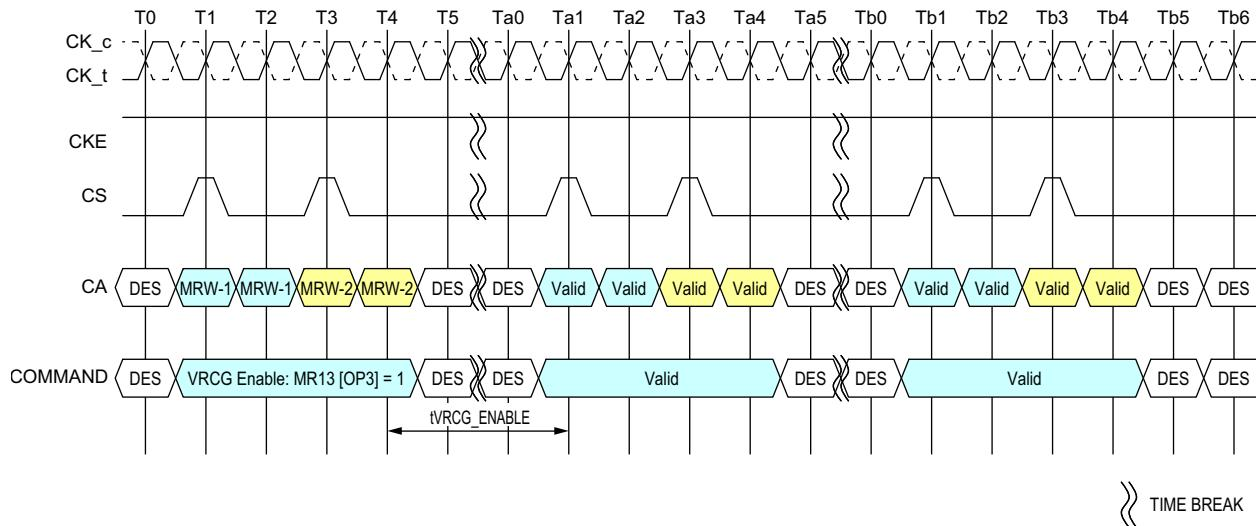

Figure 36 — VRCG Enable timing
LPDDR4 SDRAM V_{REF} current generators (VRCG) incorporate a high current mode to reduce the settling time of the internal V_{REF}(DQ) and V_{REF}(CA) levels during training and when changing frequency set points during operation. The high current mode is enabled by setting MR13[OP3] = 1. Only Deselect commands may be issued until tVRCG_ENABLE is satisfied. tVRCG_ENABLE timing is shown in Figure 36.